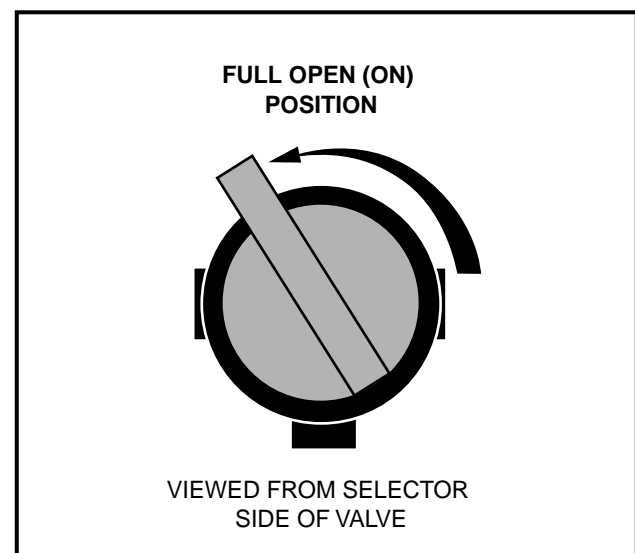
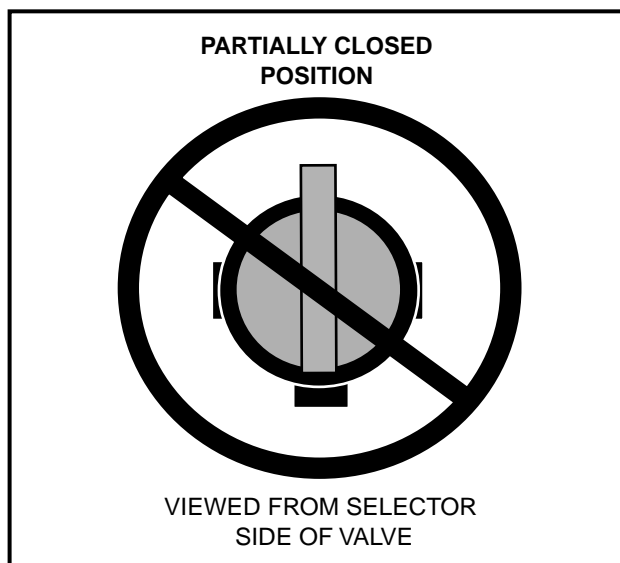

Figure 14-22 Open Fuel Shut-off Valve
Figure 14-23 Incorrect Fuel Shut-off Valve
5. Turn the fuel shut-off valve on top of the gas tank to the open position (**Figure 14-22, Page 14-28 and Figure 14-23, Page 14-28**).
12. Check to be sure the fuel shut-off valve on top of the gas tank is in the open (ON) position (**Figure 14-22, Page 14-28**) and (**Figure 14-23, Page 14-28**).
The valve's open position differs from standard valve configurations. For the valve to be fully open, it must be turned approximately 120° from the closed (OFF) position (until it cannot be turned any further) (**Figure 14-22, Page 14-28**). If the valve becomes partially closed (**Figure 14-23, Page 14-28**), the engine will not run properly due to fuel starvation.